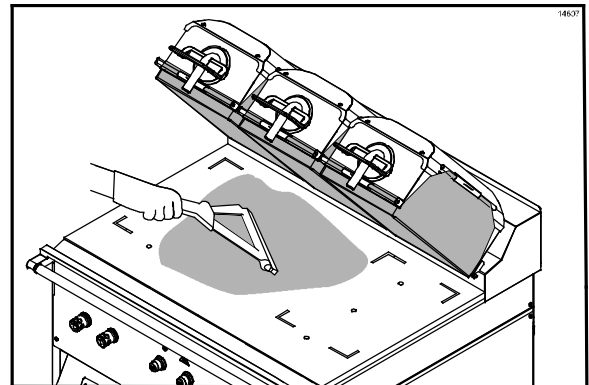

Figure 14
6. Using a clean squeegee, spread the flakes on the cooking zone. (See Figure 14.)